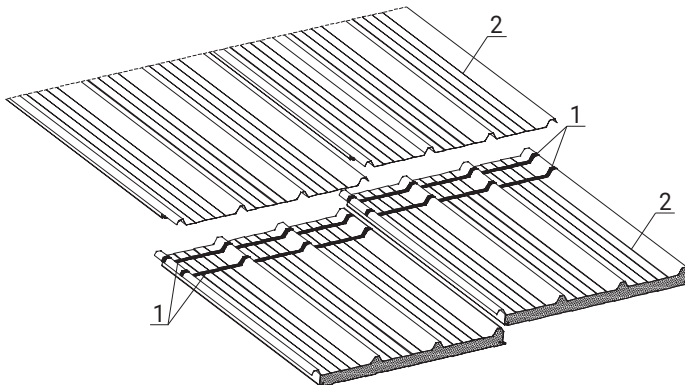

fig. 3
**c.** The end lap joint of roof sandwich panels joined in length should be sealed using two runs of self-adhesive tape or butyl sealant (Fig.3).